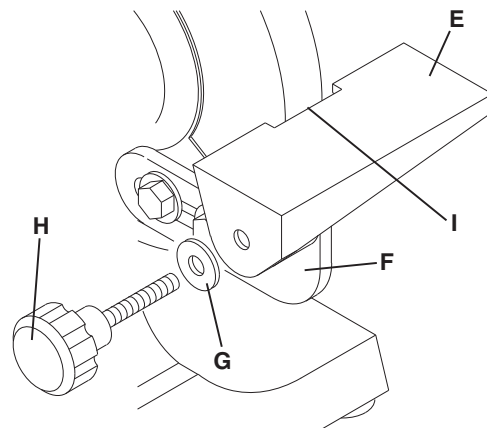

Figure 4 - Assemble tool rests to supports.
2. Assemble the tool rests (E) to the supports (F) with the flat washers (G) and adjustment knobs (H) as shown. See Figure 4.
- Adjust each tool rest until its inside edge (I) is 1/16" from the grinding wheel. Firmly tighten the hex head screws holding the supports. See Figure 4.